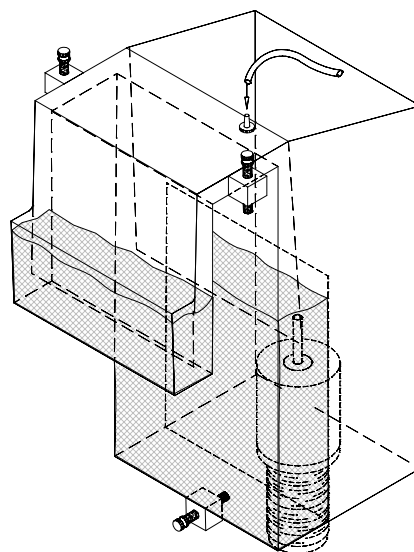

Fig. 2
7. *Using a container of water from your aquarium, fill the narrow chamber in the back of the overflow to the top.(FIG 2) To start and maintain the siphon overflow, draw the air out through the nipple on top of the overflow by one of the following methods:*